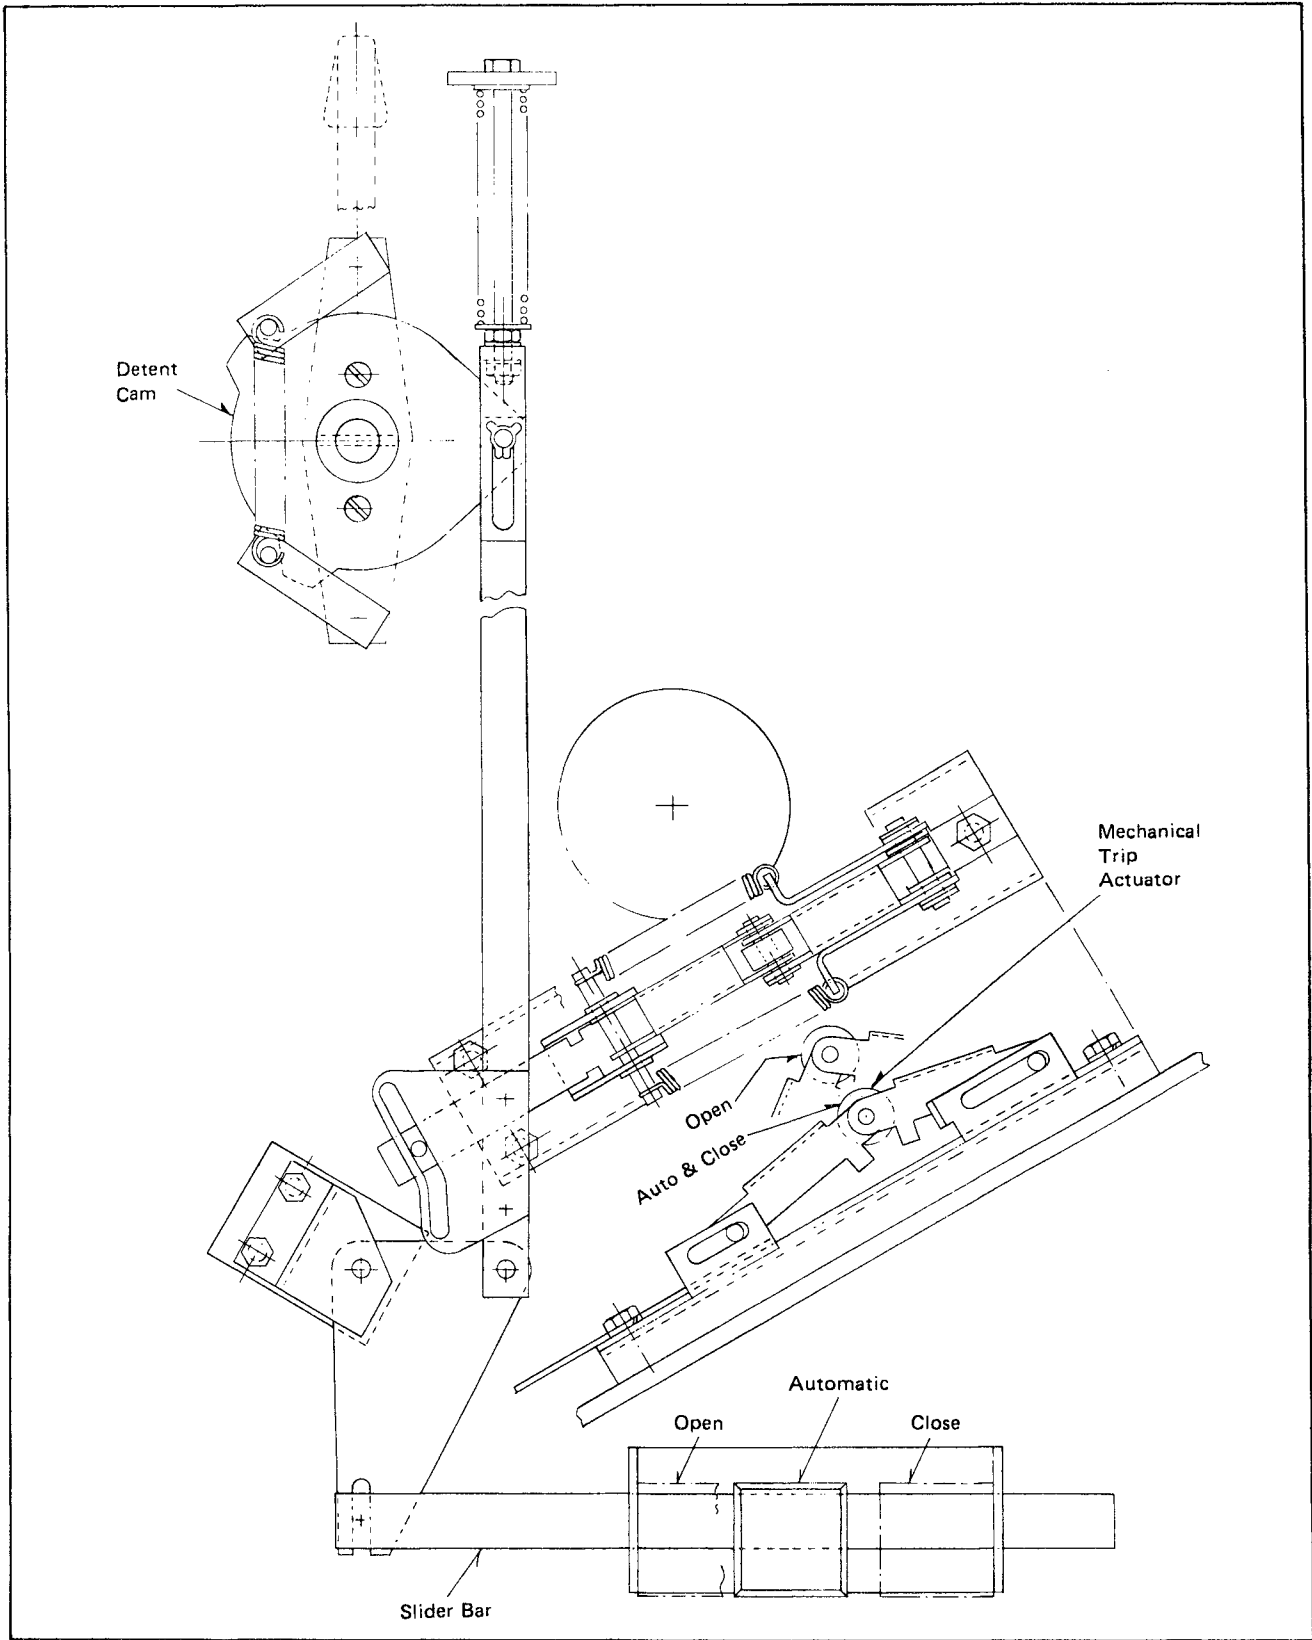

Fig. 10 Door Mechanism Operation on CMD Network Protectors
2. Internal door mechanism. See Fig. 10.
Upon opening the door, a mechanism is clearly visible mounted on the inside surface of the door and is actuated by the external operating handle. The operating handle has three positions; OPEN, AUTO, and CLOSE as indicated on the nameplate located directly above the handle. The door mechanism has three major active components which are described as the detent cam, slider bar, and trip actuator (refer to Fig. 10).